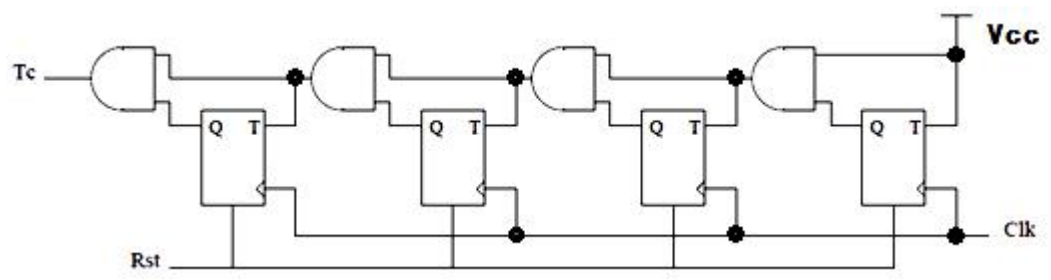

Figure Q3
- 3 (a) Write Verilog code for a T-type flip-flop. This flip-flop has an input T and an output Q. At each positive edge of clock (clk), the output (Q) is inverted, if the input T is logic HIGH, and the output (Q) doesn't change if the input (T) is logic LOW. The flip-flop has an active-HIGH asynchronous reset (rst). Only use the given inputs and output (T, Q, Clk, Rst). 15
- (b) Write the Verilog code for a 4-bit synchronous counter using such toggle (T-type) flip-flops (module instantiation), as shown in Figure Q3. The counter has an active-HIGH asynchronous reset (rst) and a terminal count output (Tc). (9)